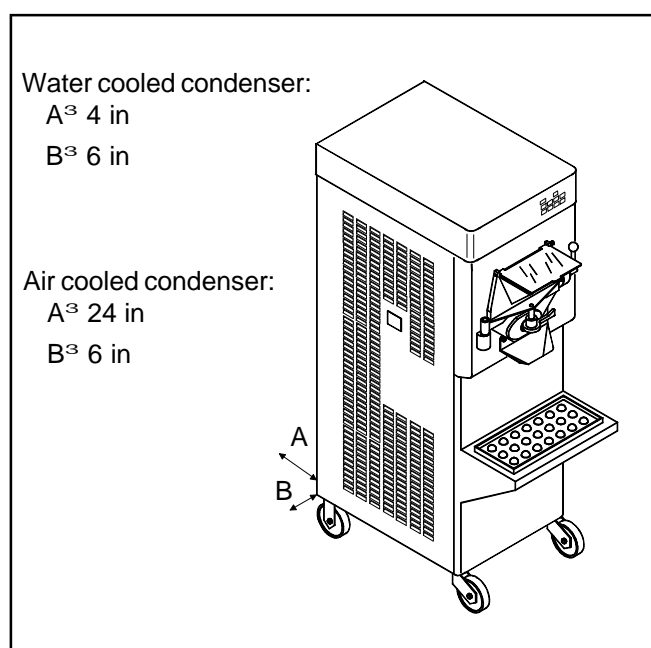

Figure 1
- Machines with air-cooled condenser must be installed at least 2 feet (24 inches) away from any wall or object to allow the free circulation of air around the condenser (ref. Fig. 1).